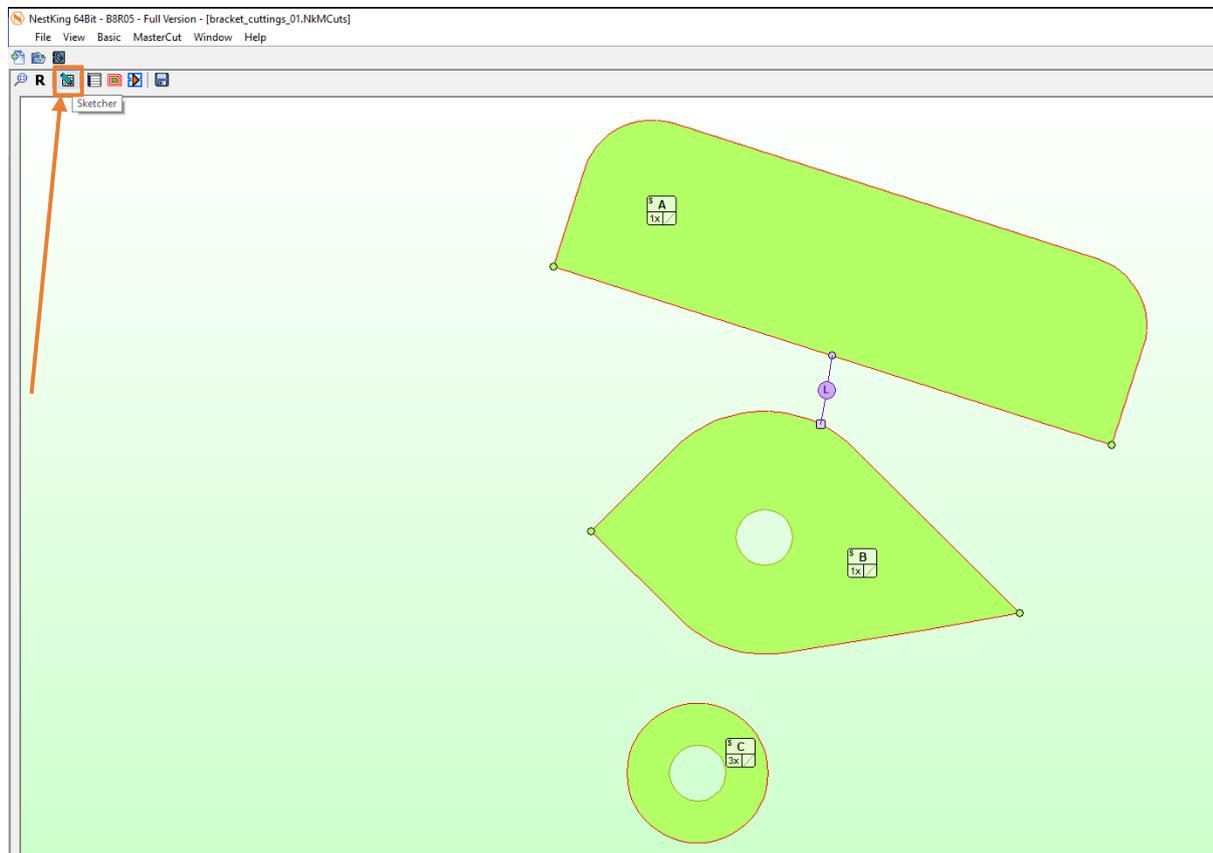

Figure 189
1. So back in the MasterCut workspace enter to the sketcher workspace by clicking the Sketcher button  (Figure 189) or using shortcut **-S-**.